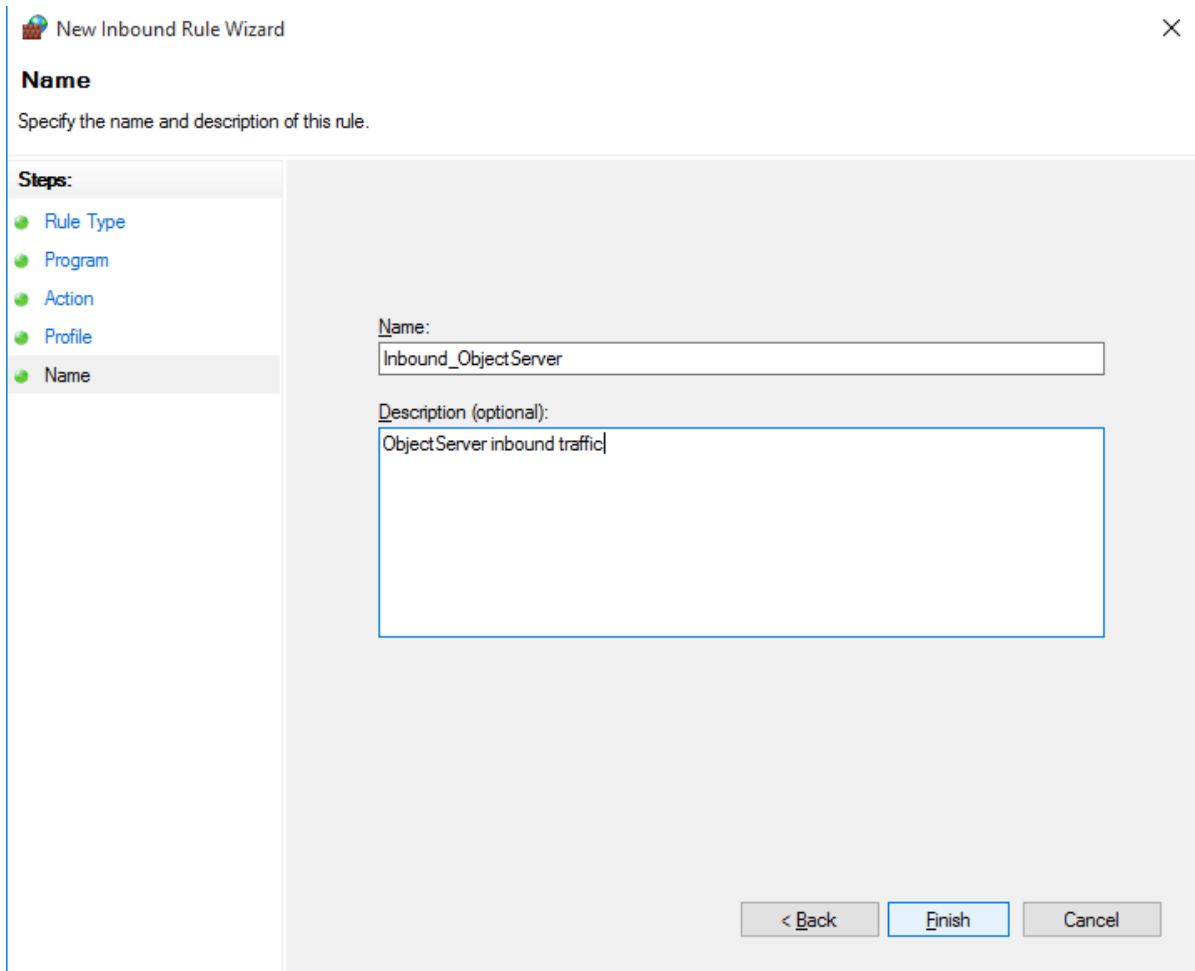

Figure 2-71. Name the Rule
5. On the Name page of the New Inbound Rule Wizard, specify a **Name** for the rule, and optionally enter a description. Then click **Finish**. This is similar to *Figure 2-71*.